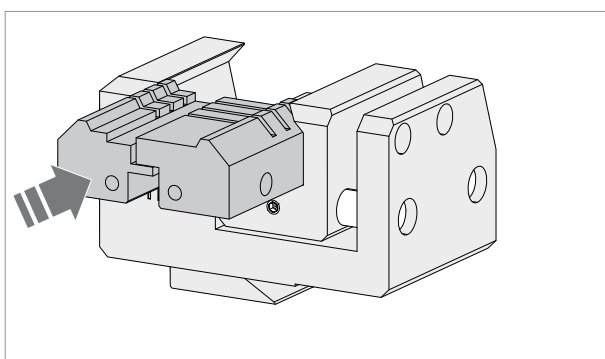

Fig. 46
- 6) Fit the jaw up against the stop pin (Fig. 46).